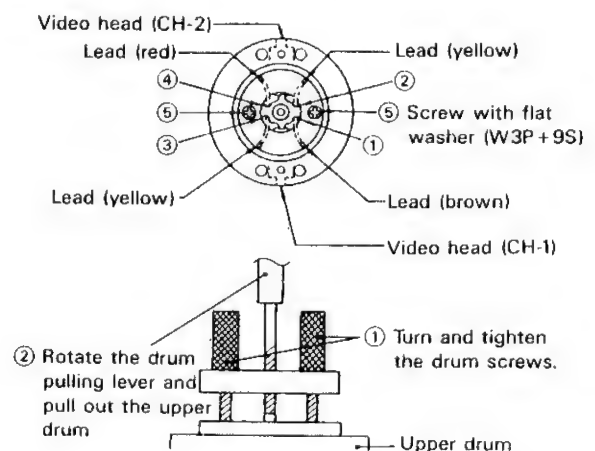

Figure 1-28.
• Replacement (See Fig. 1-28)
1. Unsolder the leads ① to ④ from the video head and remove them.
2. Remove the two screws ⑤ (brass screws with washers) using a Phillips screwdriver.
1. Set a new drum for replacement, as shown in Fig. 1-28, and position the leads properly.